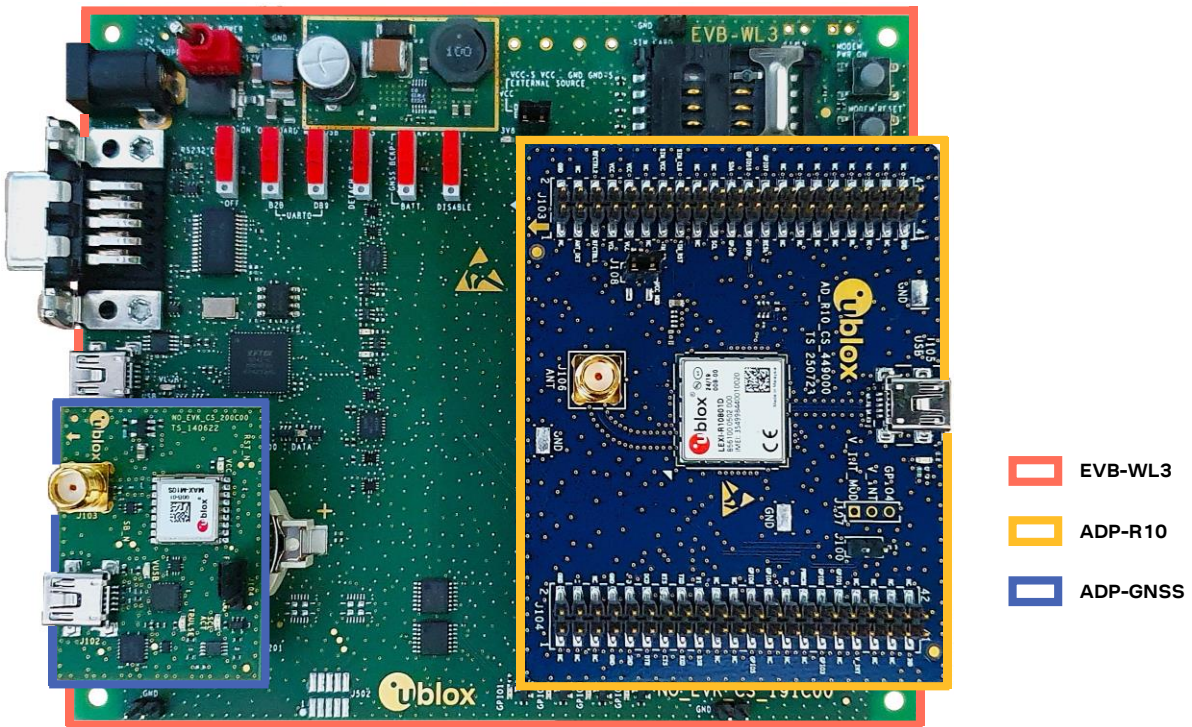
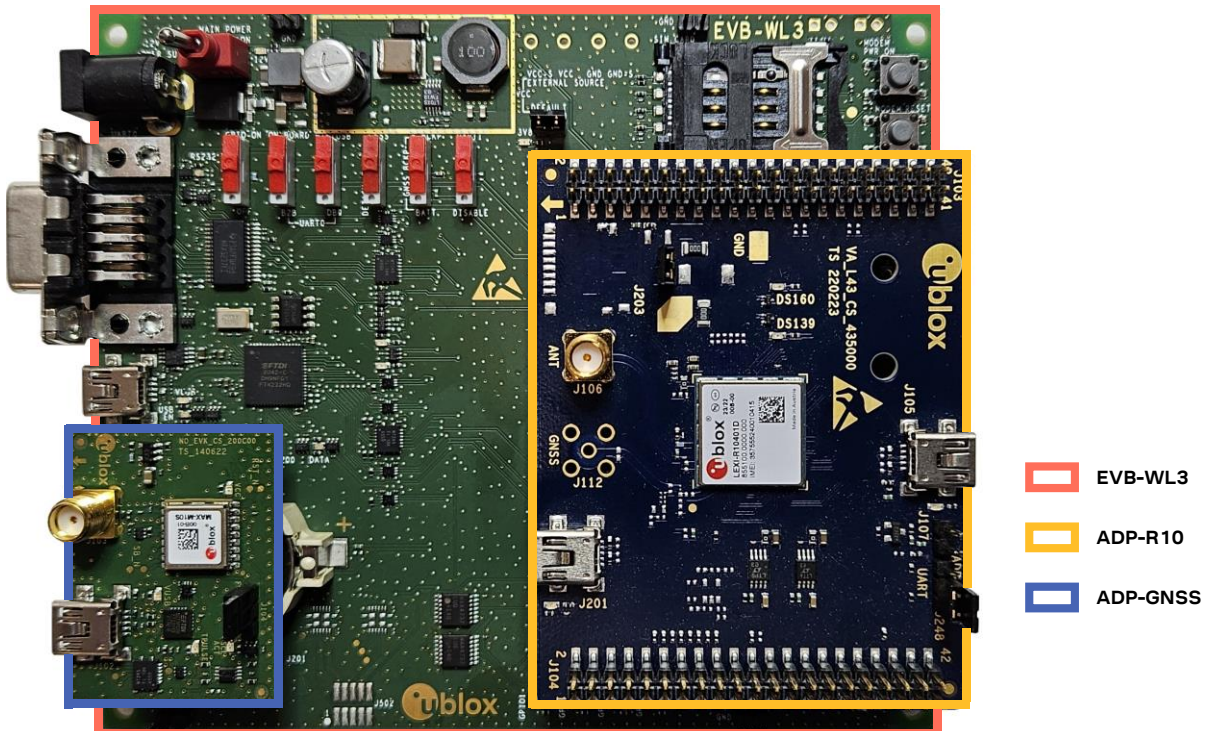

Figure 1: EVK-R10 evaluation kit “new” model, formed by three boards, with latest “new” version of the ADP-R10 board
Figure 2: EVK-R10 evaluation kit “old” model, formed by three boards, with previous “old” version of the ADP-R10 board
As shown in Figure 1 and in Figure 2, the EVK-R10 evaluation kits are formed by three boards:
- The latest “new” version of the cellular adapter board, marked “AD_R10_CS_449000”, illustrated in Figure 1, and described in sections 2.1.1 and 4.1. Any of the EVK-R10 evaluation kits including this “new” version of cellular adapter board are herein simply referred as “EVK-R10 new model”.
- The previous “old” version of the cellular adapter board, marked “VA_L43_CS_435000”, illustrated in Figure 2, and described in sections 2.1.2 and 4.2. Any of the EVK-R10 evaluation kits including this “old” version of cellular adapter board are herein simply referred as “EVK-R10 old model”.